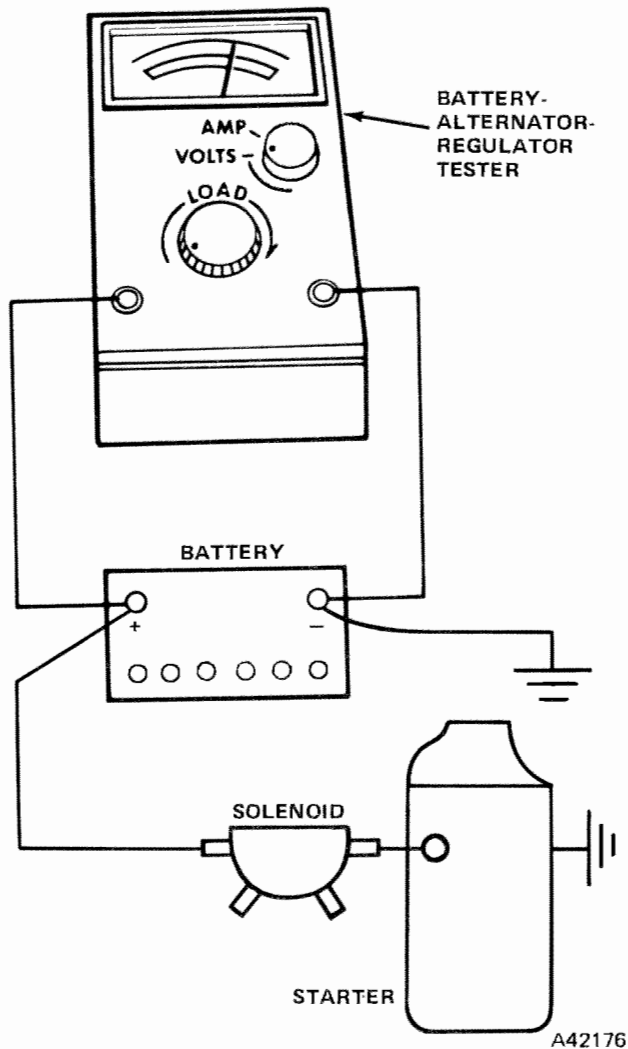

Fig. 3-40 Starter Motor Current Draw Test
(1) Prior to performing a current draw test, battery must be fully charged as described under Hydrometer Tests in this section.
(2) Disconnect and ground ignition coil secondary wire.
(3) Connect a remote control starter switch between positive battery terminal and S-terminal of the starter solenoid.
(4) Connect battery-starter tester leads as shown in figure 3-40. Operate remote control starter switch and read voltage indicated on voltmeter while starter is cranking engine.
(5) Turn remote control starter switch off.
(6) Turn load control knob clockwise or to Increase until the voltmeter reading is exactly the same as it was when the starter was cranking.